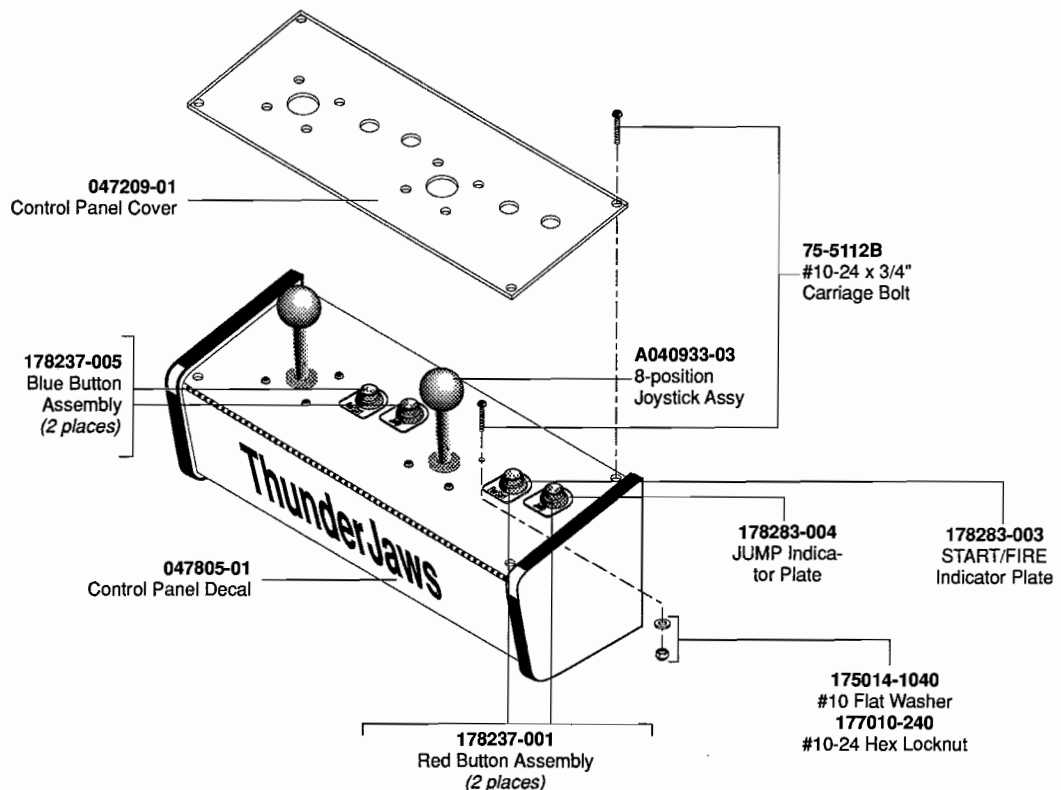

Figure 1-1 Assembling the Control Panel
9. Install the buttons with the "START/FIRE" or "JUMP" indicator plate under each button. Install the blue player control buttons on the left and the red player control buttons on the right. (See Figure 1-1.) Install the joysticks with the carriage bolts, washers, and locknuts.